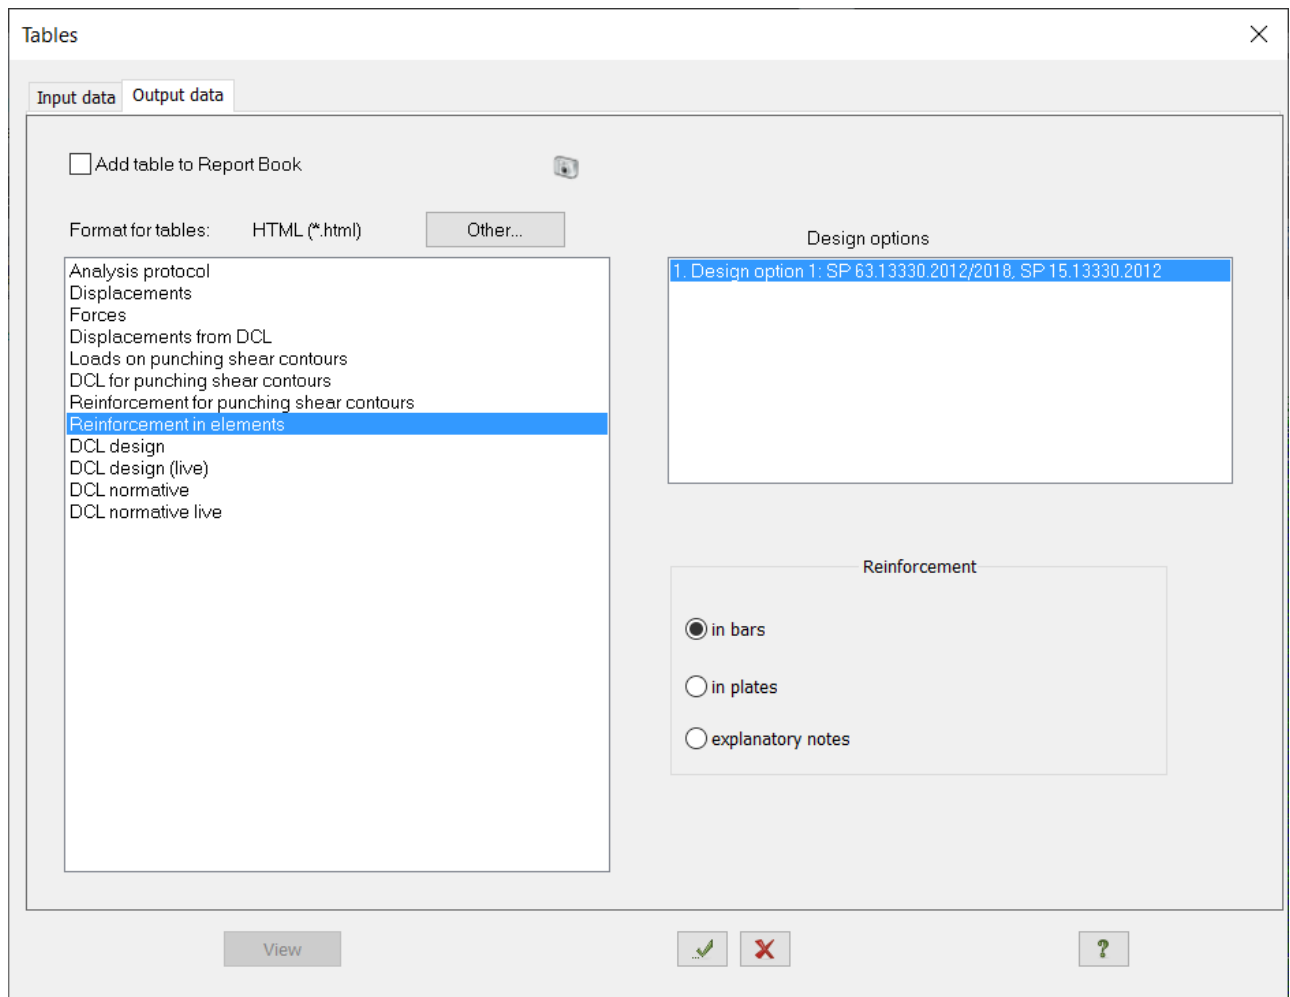

Figure 23.40. **Tables** dialog box
- ⇒ In the **Tables** dialog box (see Fig.23.40), the following data is mentioned by default: **Reinforcement in elements** option is selected in the list, the **in bars** option is selected under the **Reinforcement**.